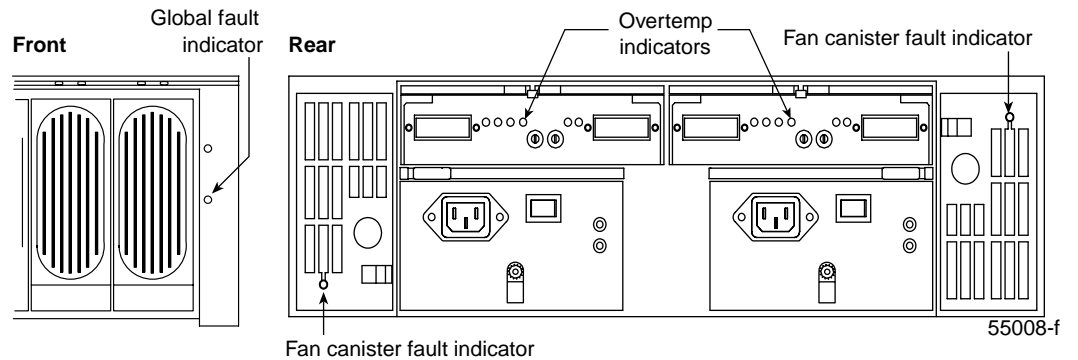

Figure 4-3 Fault Lights for Fan Module Replacement
12. Check the fault indicators as follows (see Figure 4-3):
- If any of the other fault indicators shown in Figure 4-3 are on, use TPSSM to determine the problem.